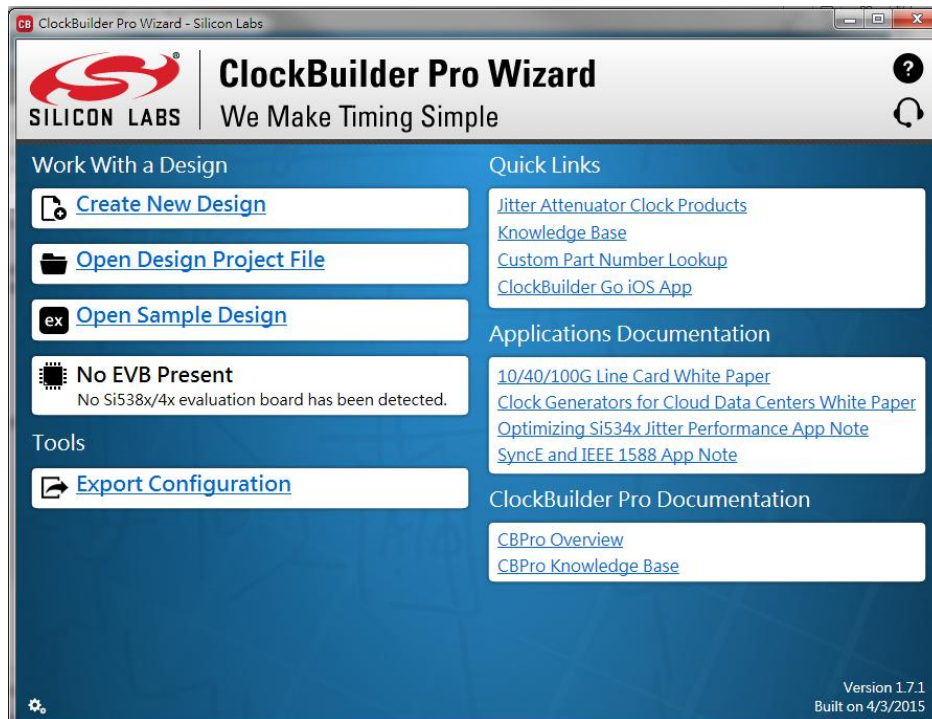

Figure 5-3 ClockBuilder Pro Wizard
1. Firstly, download ClockBuilder Pro Software (See **Figure 5-3**), which is provided by Silicon Labs. This tool can help users to set the Si5340A's output frequency of each channel through the GUI interface, and it will automatically calculate the Register parameters required for each frequency. The tool download link: